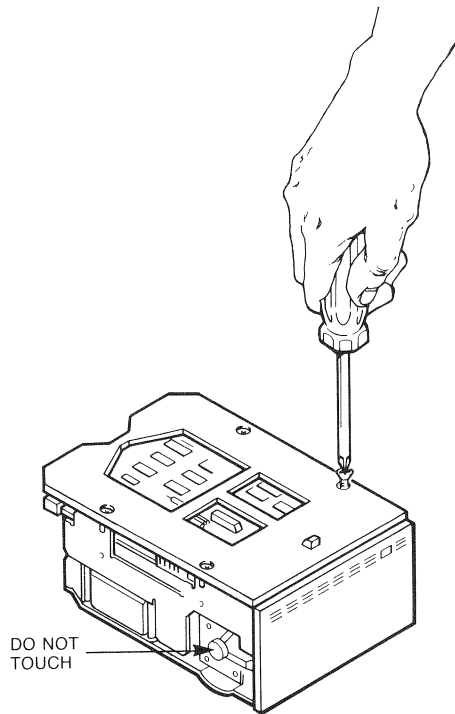

Figure 8-7 RD51 Disk Drive Skid Plate Removal
1. Remove the four Phillips screws retaining the skid plate. Set the skid plate aside (Figure 8-7).